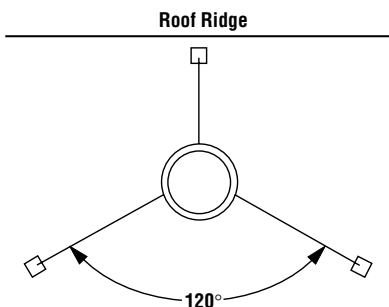

Figure 29
Step 9. Security Chimneys locking bands, Model FLB, may be required if the chimney extends too high above the roof flashing. As a general rule, if the chimney extends more than 6' above the roof flashing, the use of locking bands is advisable to strengthen the chimney assembly. Align the locking band at the chimney joint. Locking bands wrap around pipe joints equally covering the joints of both pipe sections. Use the nut provided and TIGHTEN snugly. Do not overtighten as this might damage the chimney section (refer to Figure 29).
Note: If chimney extends more than 8' above roof surface, guy wires are also recommended. Use three (3) guy wires, attach to locking band assembly, extend and secure to roof in a triangular pattern (Figure 29). Guy wires are not supplied by the manufacturer.